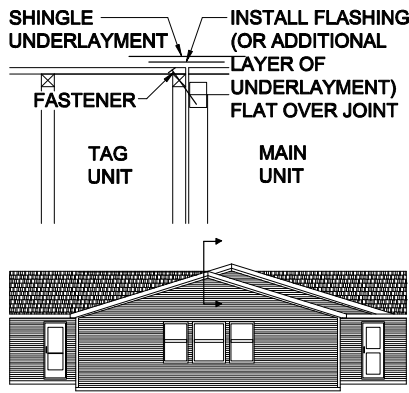
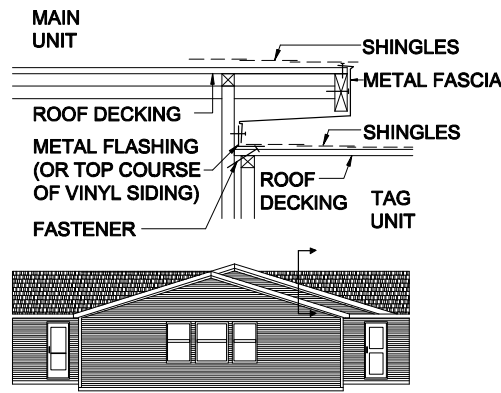

Figure 23. Tag unit flush roof connection
Figure 24. Tag unit offset roof connection
5. **Connect roofs.** Connect the tag unit roof to the main unit roof using #10 x 4" screws at 12" on-center (8" on-center in Wind Zone 3) or #8 x 4" screws at 8" on-center (5" on-center in Wind Zone 3) toe screwed through tag unit end truss top chord into each main unit dormer vertical structural member location (stud or truss). If full depth ridgebeam headers must be connected refer to **Connect Roofs**. See **Figure 23** for flush roof connections and **Figure 24** for roof connections with an offset greater than two inches. Roof connections with an offset less than two inches do not require screws.